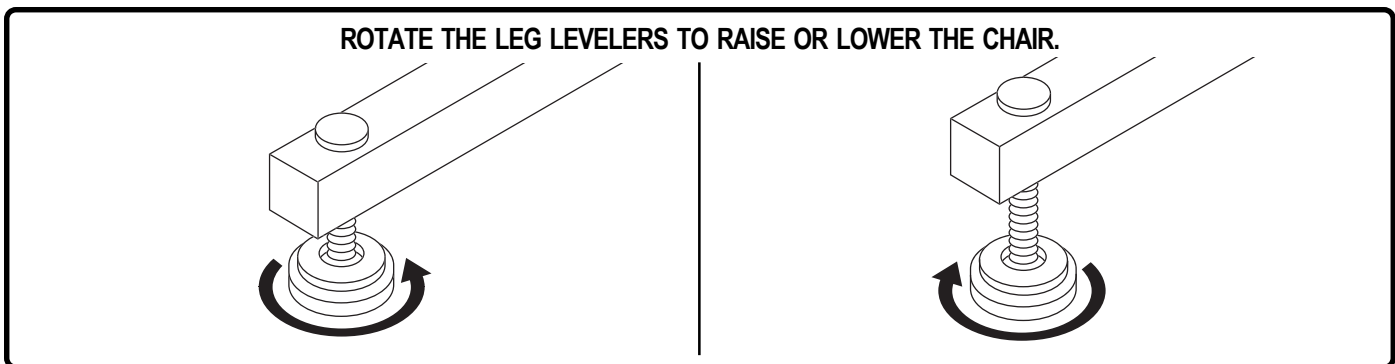

Figure 3.2 Leg Levelers
Leg Levelers: Manually rotate up or down in order to stabilize the chair before use (Fig. 3.2).
2. Adjust the leg levelers to stabilize the lift chair (Fig. 3.2).